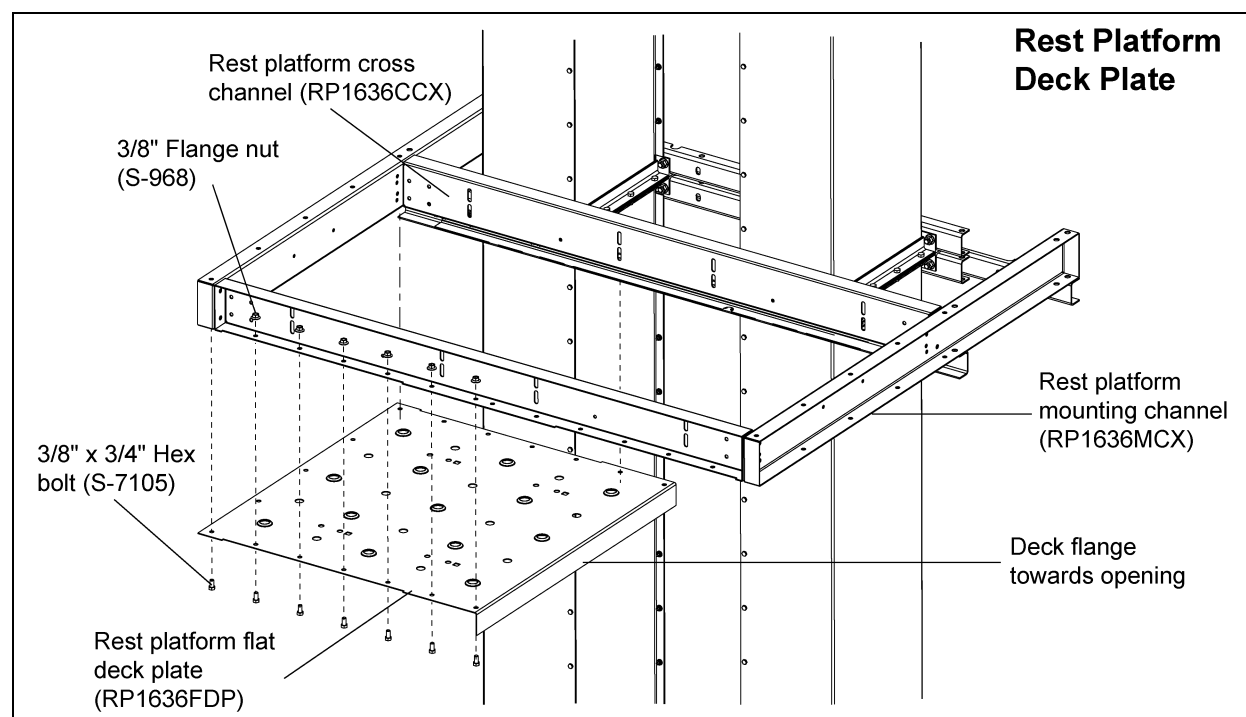

Figure 7H Deck Plate
2. Attach rest platform deck to the bottom of the rest platform mounting channels and rest platform cross channels, using 3/8" x 3/4" hex bolts. Bolt heads should be installed against the deck plate. (See Figure 7H.) **NOTE:** The deck plate can be mounted on either the right or left side, but the flange must be mounted towards the opening.